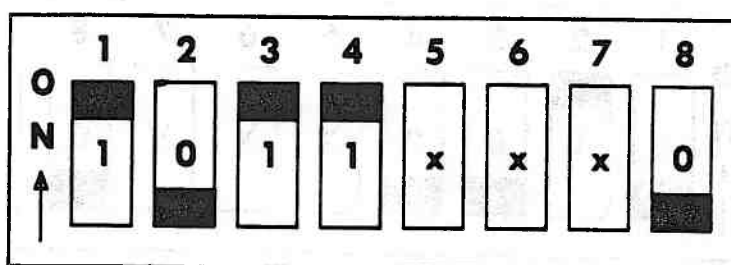

Figure 3-7. DIPSW-0 Setting for 256-KB Total Memory
13. On DIPSW-0, set switches 1, 2, 3, and 4 for 256-KB total memory (Figure 3-7).